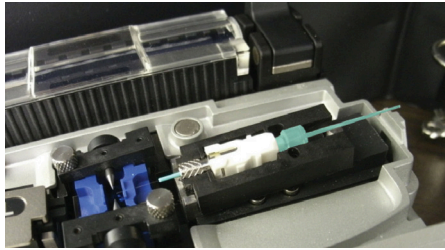
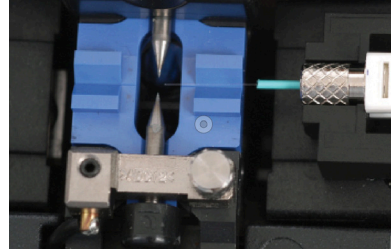

Figure 6 (Note: Remove the Extended Dust Cap Before Initiating the Fusion Splice)
Figure 7
**4. Insert the holder into the right hand side of the splicer (Figure 6), being sure that the fiber stub lays properly into the v-groove block of the splicer (Figure 7). You may use the fiber positioning tool to help align the fiber in the v-groove.**